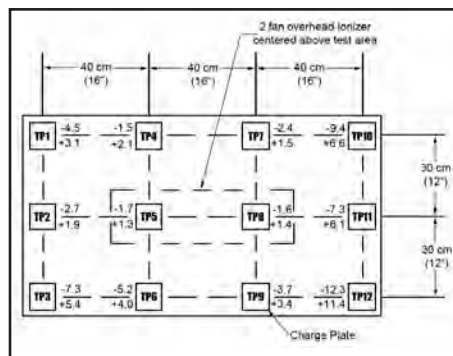

Figure 5. Neutralization (discharge) times - 2 fan ionizer
- VI. Test the neutralization (discharge) time by applying a $\pm 1,000$ volt on the charged plate. The neutralization (discharge) time should be less than 3 seconds when charged plate analyzer is directly under a fan. See figures 5 and 6 for typical discharge times. The required limit per ANSI/ESD S20.20 is "user defined".